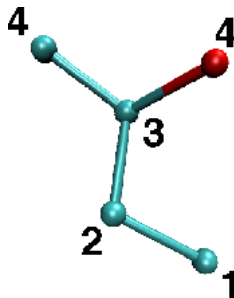

Figure 4: Number labels for atoms which are a given amount of bonds away from one another
- **temperature**: sets the initial temperature of the system in Kelvin (K), with the value listed next to it (in this case `$temperature`, or 310). This is done by assigning random velocities to atoms picked from a Maxwell distribution such that their average kinetic energy accurately represents the given temperature.
- **exclude**: specifies which atomic interactions are to be excluded from consideration. See Figure 4 for general atom labels. The